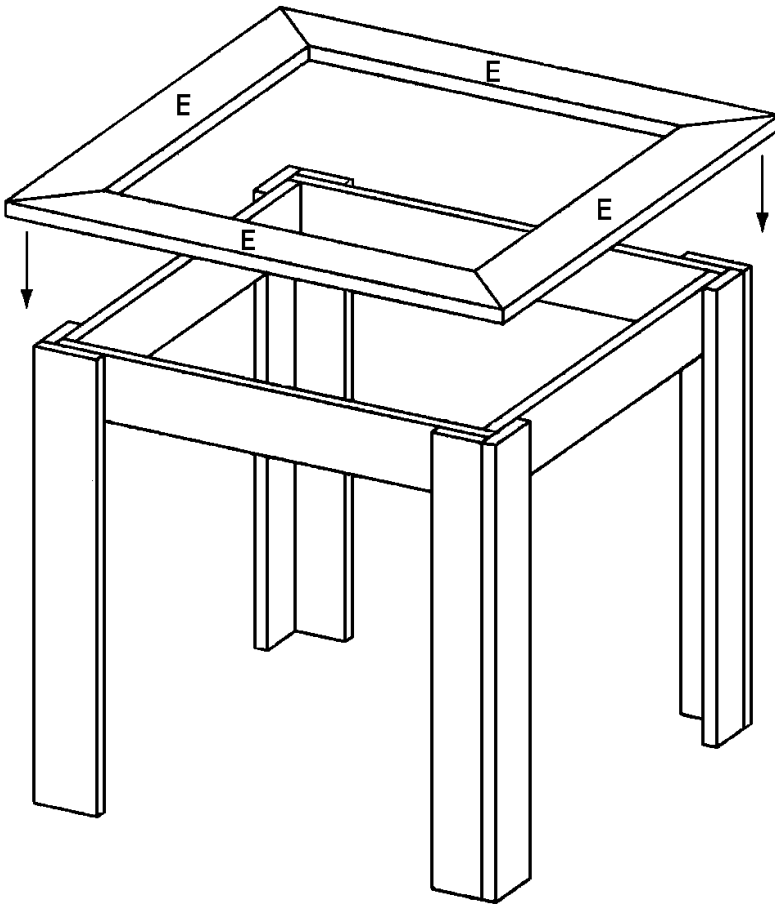

Figure 5
3. Attach each of the lower trims (E) to the base assembly, as shown in *Figure 5*. Apply glue to the top edge of the long and short bases (A and B), screw through the lower trims (E) into the wide and narrow legs (C and D) and the long and short bases (A and B). Use 1-1/2-inch screws spaced about 6 inches apart. The lower trims should overhang the legs by 1 inch. Use 1 1/4-inch (3d) finishing nails to keep the outside corners of the miter joints aligned. Nail across the joint from each side, starting about 3/4 from the end. Offset the nails slightly to avoid hitting the first nail with the second one.
4. Cut four upper trims (F) from 1 x 4 pine, each measuring 31 inches long.